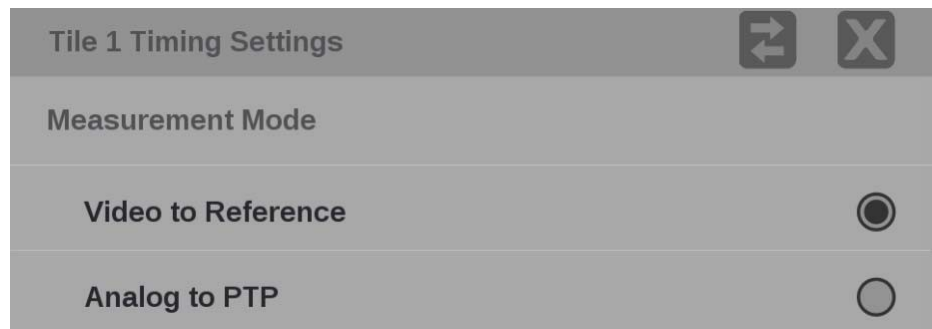

Figure 127: Timing application settings menu
**Measurement Mode.** Use the menu to change the measurement mode between options. (See Figure 127.)